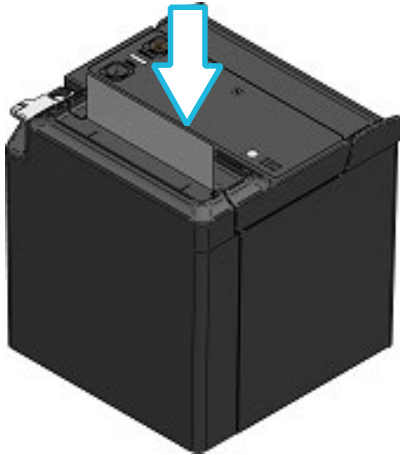

Figure 8-7 Paper Cover (Top)
- (5) Push firmly the part indicated by the arrow in Figure 8-7 and Figure 8-8 to close the paper cover to avoid one side lock defect.